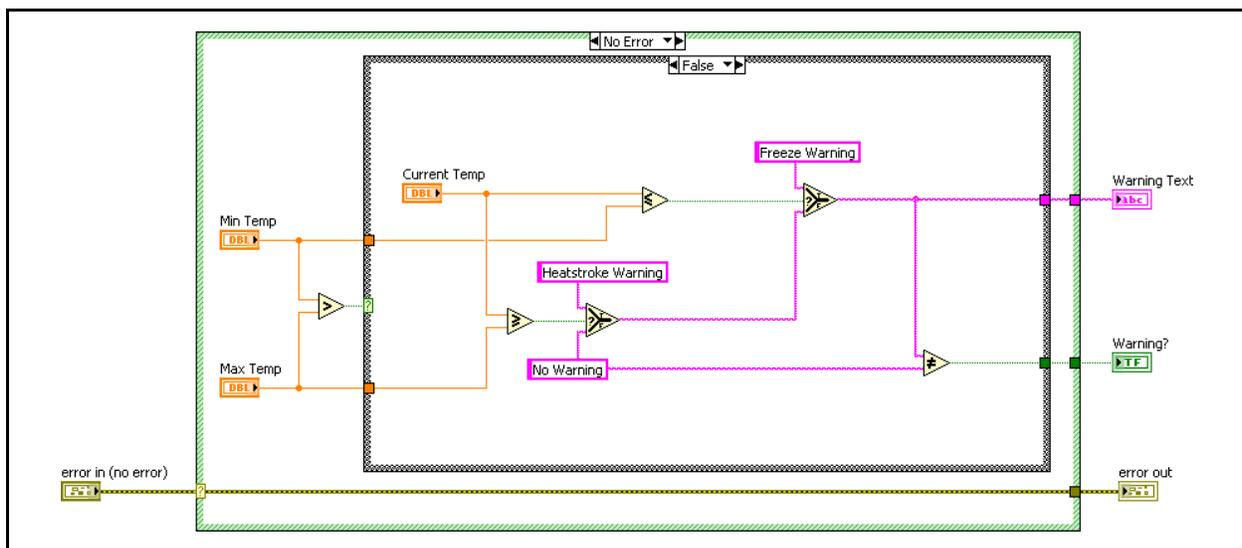

Figure 1. No Error Case of Determine Warnings VI
- Surround the block diagram code with a Case structure, as shown in Figure 1. Leave the Warning Text and Warning? indicators outside of the Case structure.
- Wire the error cluster through the Case structure to the error out indicator as shown in Figure 1.